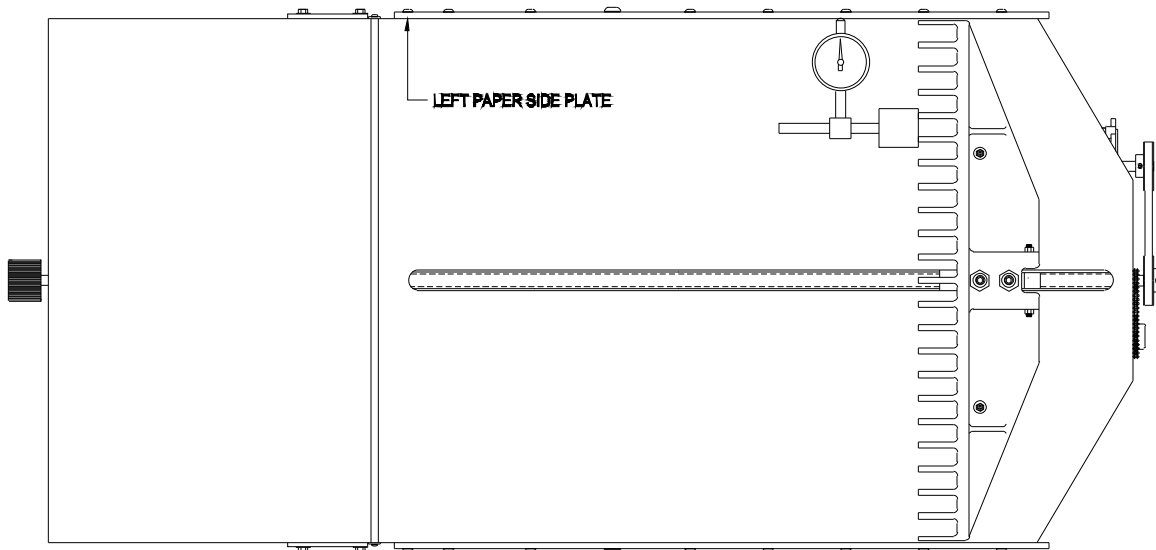
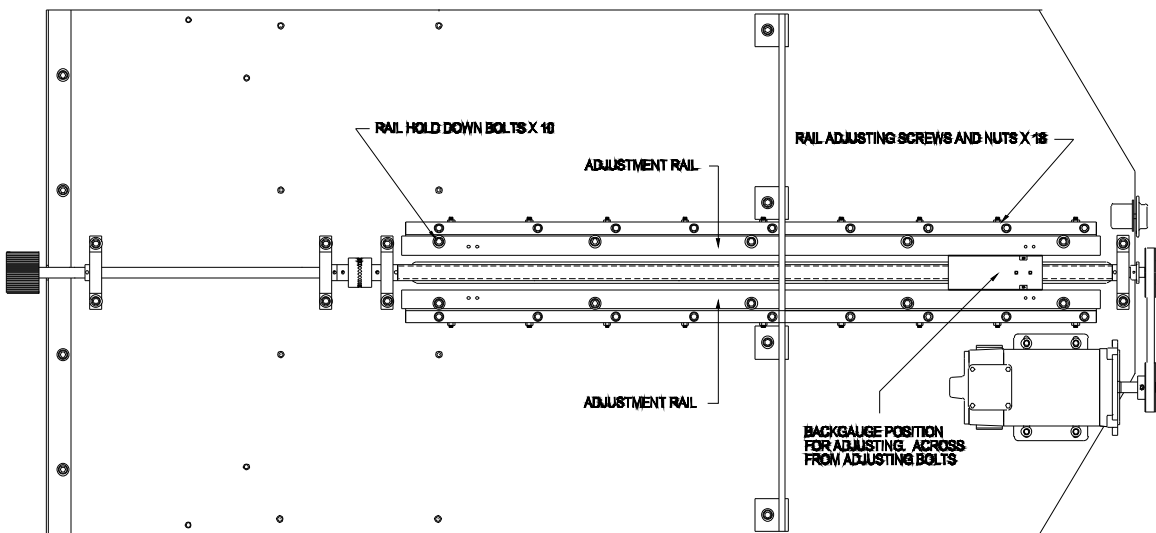

Fig 30
Fig 31
If the square of the backgauge is off from location to location, then the left guide rail is not parallel with the left paper side plate bolted to the side of the table. Fig. 30.
2. Move the backgauge to the rear of the table. Install a dial indicator on the face of the backgauge, and positioned to indicate the left side plate (as viewed from the front). Keep the indicator close to the table surface. Check the dial movement from back to front to make sure the indicator is touching over the entire length of the side plate. Fig. 30.
3. Move the backgauge to the rear and zero (0) the indicator.
4. Loosen the ten (10) socket head Allen bolts (Rail Hold Down Bolts) on the left and right rails with a 5/16" Allen wrench along the complete length of the right guide bar. Fig. 31. Keep them finger tight.
5. Move the backgauge till the block is centered on the rail adjusting screw and nut. Fig 31.
6. Check the indicator. If the indicator moved more than .001" then adjustment is needed. **NOTE:** The tolerance range for the guide rails is .002" from front to back. This means either +.002", -.002" or +.001" -.001" from zero (0).
7. Loosen, where the backgauge block is currently located, the two (2) rail adjusting hex nuts with a 7/16" wrench. Turn the rail adjusting screw with a 1/8" Allen wrench. If the indicator is plus (+), then loosen the rail adjusting screw on the right side slightly. Tighten the rail adjusting screw on the left side the same amount. You may not notice any movement of the indicator. This is normal. **NOTE:** Do not over tighten the rail adjusting screw. It will cause a bind in the backgauge and slow backgauge movement. Fig. 31.